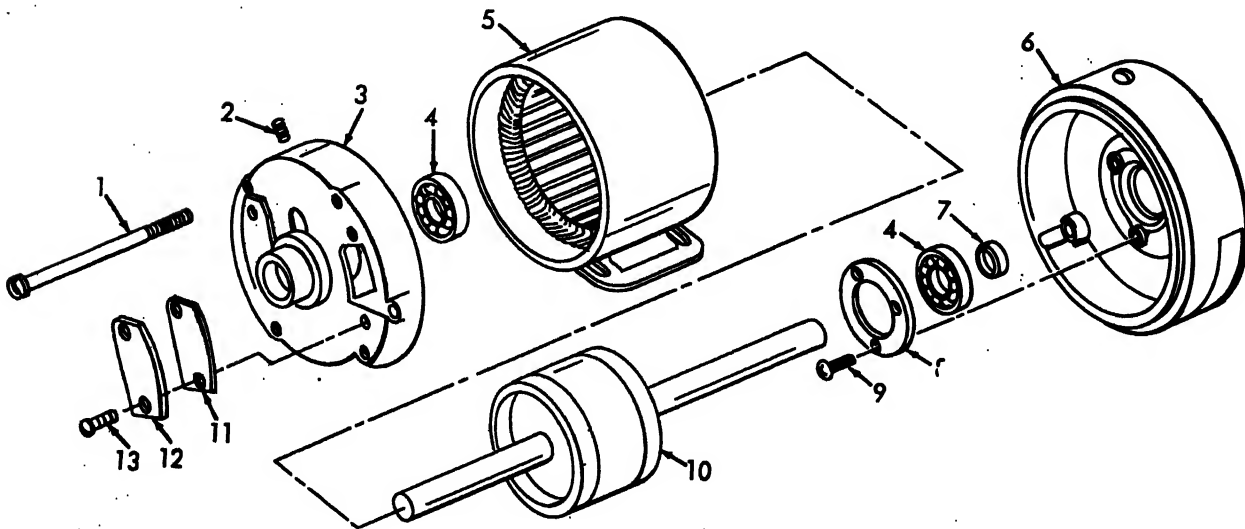

FIGURE 54. BLOWER MOTOR ASSEMBLY AND DISASSEMBLY
- b. Disassembly. Refer to Fig. 54 and disassemble the blower motor.
- a. Reassembly. Refer to Fig. 54 and reassemble the blower motor.